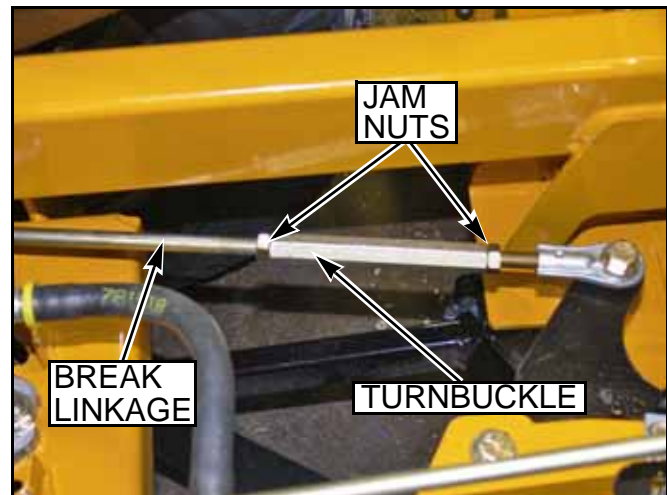

FIG. 56
7. Loosen the brake linkage jam nuts "FIG. 56".